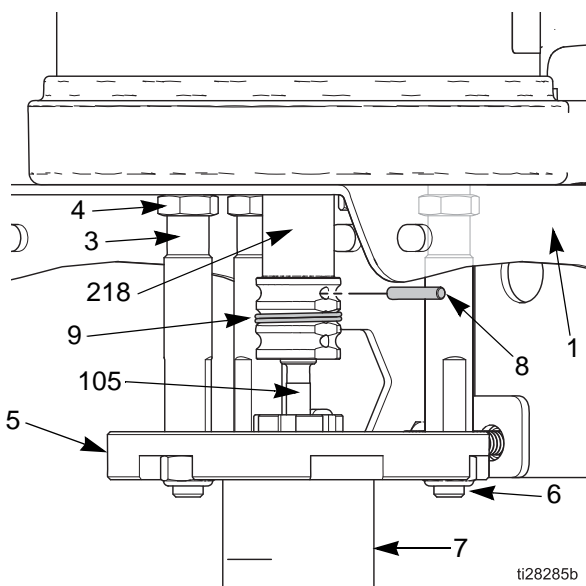

FIG. 20 Retaining spring and connector pin
3. See FIG. 20. Push the safety spring (9) down and hold to access the pilot valve (213) on the bottom cover (201).
4. See FIG. 20. Push the split spring (9) up or down to access the dowel pin (8). Push out the pin, using a screwdriver or punch.
5. Remove the nuts (6) from the bottom of the tie rods (3).
6. Remove the pump lower (7). The adapter plate (5) will remain attached to the pump lower.
7. Remove the split spring (9).
8. Loosen the nuts (4) at the top of the tie rods, then remove the tie rods. The mounting bracket (1) is loosened from the motor as the tie rods are removed.